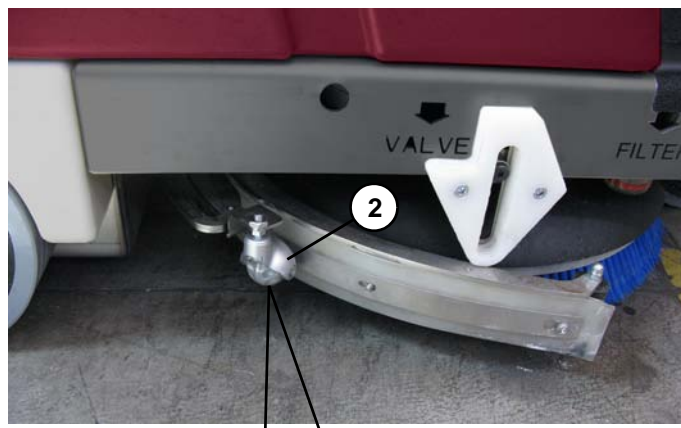

Figure 5-3
1. To adjust the squeegee height, loosen the nuts (1, Figure 5-3) and adjust the left and right wheel height (2).